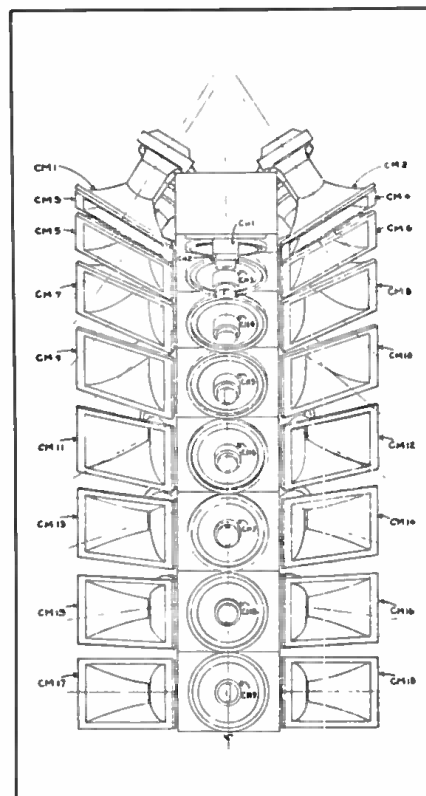

Figure 1. An articulated line array (Joong Ang, Daily News Building; Welton Becket Associates).
• Going far beyond the simple concept of the basic line array, a number of acoustical consultants are presently designing large, articulated arrays for high-level speech and music reinforcement. FIGURE 1 shows details of such a design. Richard Negus of Purcell + Noppe + Associates, Incorporated, of Chatsworth, CA, was the design engineer.